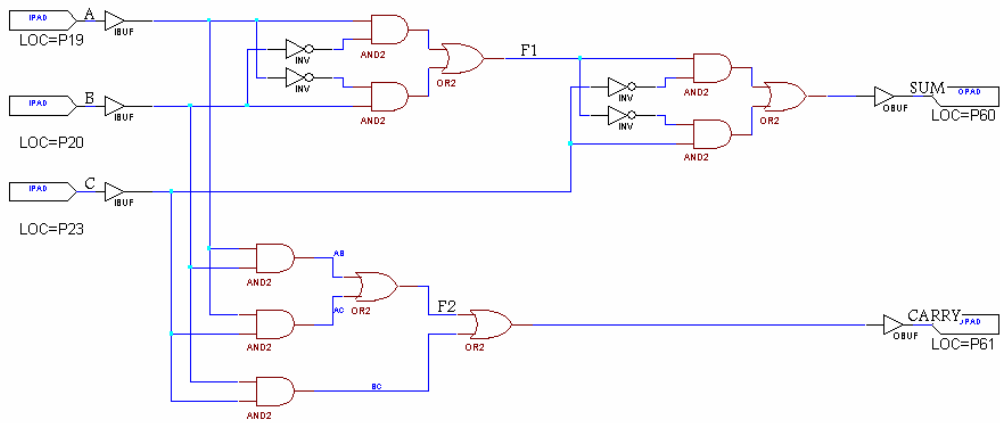

Figure 4.1
- Find the truth table for the circuit given in Figure 4.1 for the primary outputs and at the wires F1 and F2.
- Add the symbols for the gates needed for the circuit in Figure 4.1
- Name the input and output nets. Your schematic would look like Figure 4.1